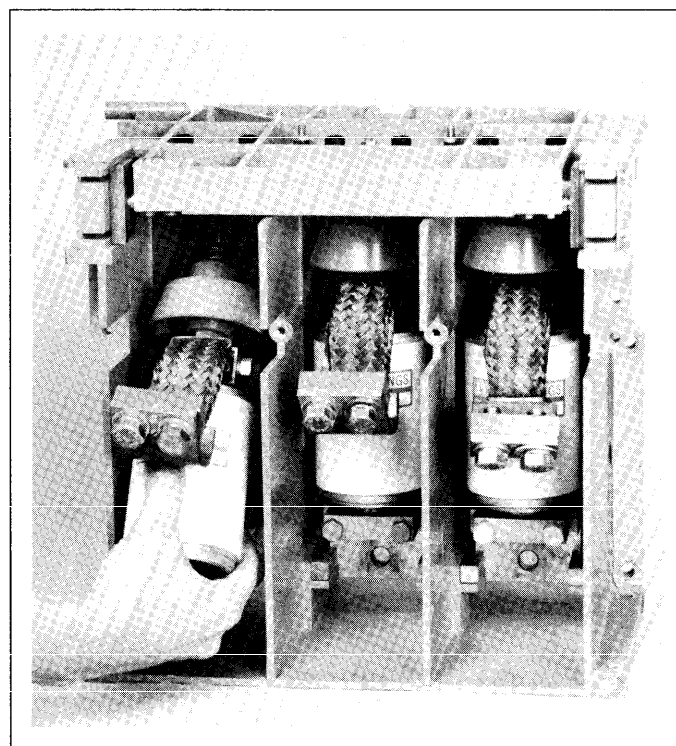

Figure 11. Downward removal of interrupter assembly.
5. Withdraw the interrupter assembly downwards from the contactor. See Figure 11.